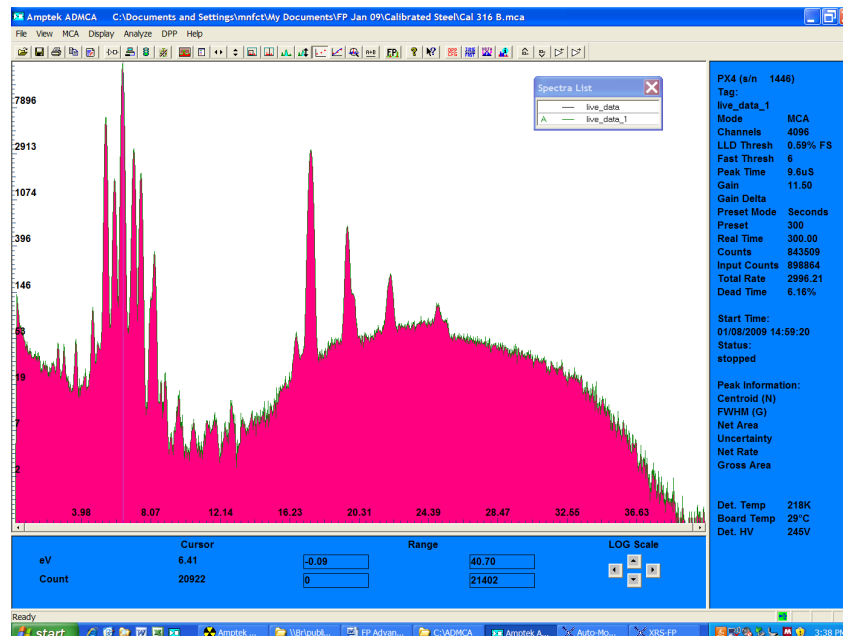

Figure 2. Calibration spectrum acquired from the SS316 standard.
- Place the standard in the spectrometer and take the calibration spectrum, under conditions identical to those that will be used for later routine sample analysis – except that we recommend taking calibration data for a longer time. Figure 2 shows the calibration spectrum, which was taken for 300 sec.
- Check the calibration spectrum. Make sure that all of the expected elements are present and look for contaminants. In Figure 2, the Fe peak is largest, as expected for steel. The Cr and Ni peaks are clearly visible nearby. The Mo peaks can be seen at 17.4 and 19.6 keV. Other peaks correspond to known contaminants (e.g. Ag from a shield in the setup, Ar from air), escape peaks, sum peaks, etc. Save the calibration spectrum in ADMCA as a *.mca file and then reopen it in ADMCA.